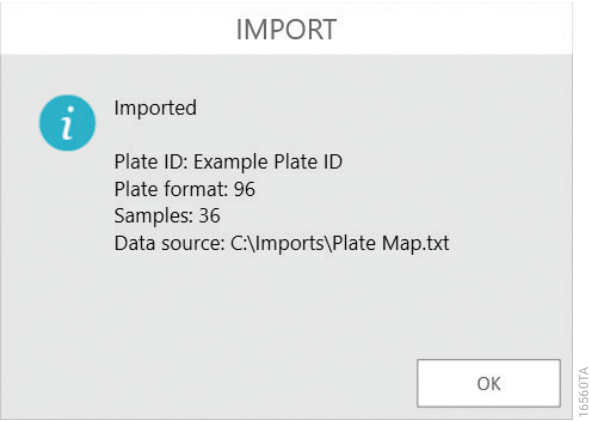

Figure 40. ‘Import’ screen. The ‘Import’ screen displays a summary of information from the import of a plate map file.
7. Once all data fields are identified, tap the **Accept** button to perform the import of data from the file. An 'Import' screen is shown summarizing the results of the plate import including the Plate ID, plate format, number of samples present in the file, and the data source for the import file (Figure 40). Tap **OK** to dismiss the 'Import' screen.